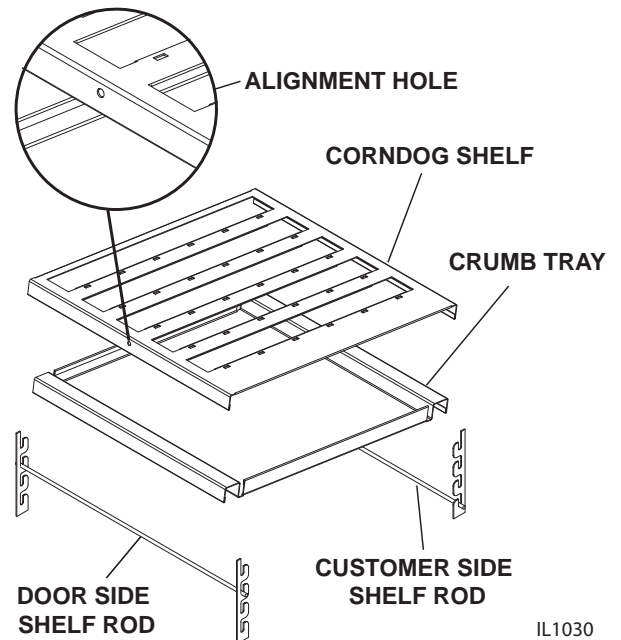

FIG. 1 CORNDOG SHELF INSTALLATION
4. Position the corn dog shelf so the alignment hole faces the door (as shown in Fig 1).